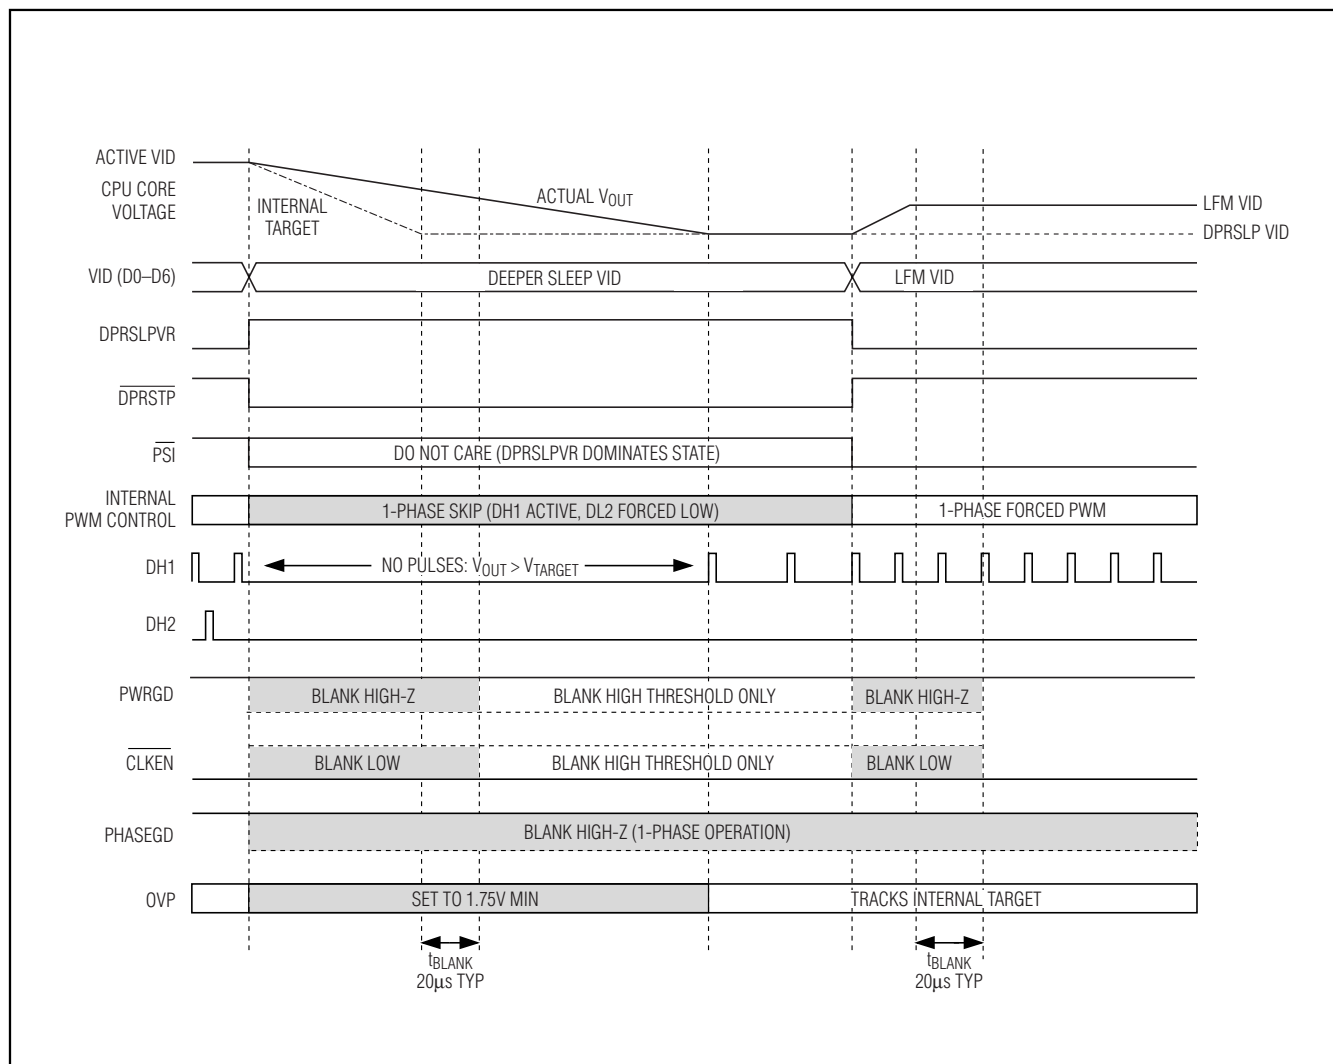

Figure 5. Standard C4 Transition
- Standard C4 Deeper Sleep Exit:** When exiting deeper sleep (DPRSLPVR pulled low) while the output voltage is regulating to the deeper sleep voltage, the MAX8770/MAX8771/MAX8772 immediately activate all enabled phases and ramp the output voltage to the LFM DAC code provided by the processor at the slew rate set by R_{TIME} . The controller blanks PWRGD, PHASEGD, and $\overline{CLKEN}$ (forced high impedance) until $20\mu s$ after the transition is completed. See Figure 5.